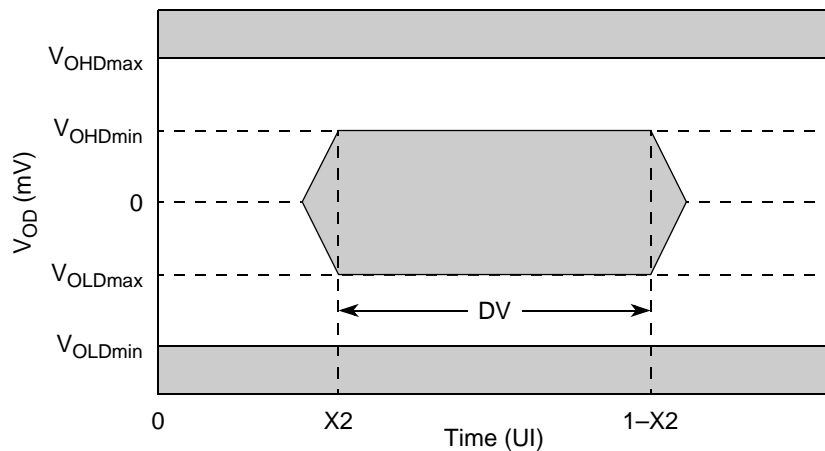

Figure 38. RapidIO Transmit Mask
1. See Figure 38.
4. Measured using the RapidIO transmit mask shown in Figure 38.
The compliance of driver output signals TD[0:15] and TFRAME with their minimum data valid window (DV) specification shall be determined by generating an eye pattern for each of the data signals and comparing the eye pattern of each data signal with the RapidIO transmit mask shown in Figure 38. The value of X2 used to construct the mask shall be $(1 - DV_{min})/2$. A signal is compliant with the data valid window specification if the transmit mask can be positioned on the signal's eye pattern such that the eye pattern falls entirely within the unshaded portion of the mask.